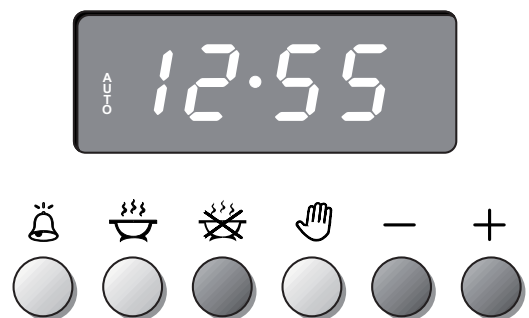

Figure 21
2. Set the end of the cooking time by pressing the  button (the cooking time already added to the clock time will appear), and the  button (fig. 21); if you pass the desired time you may get back by pushing the  button.